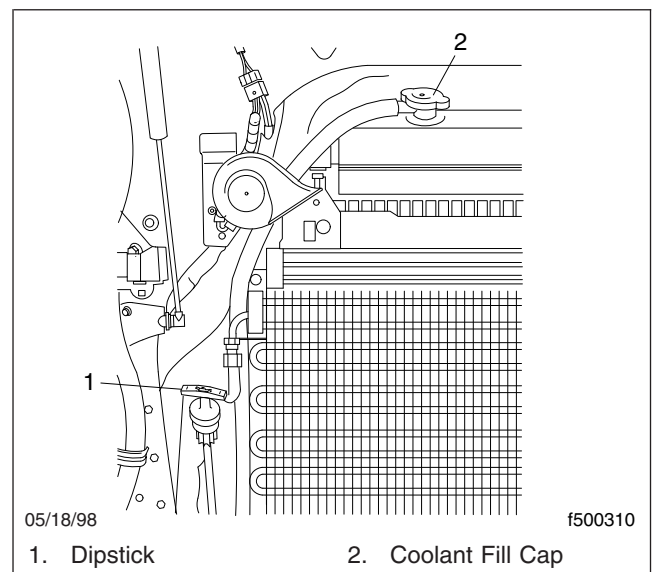

Fig. 23.6, Oil Level Checking
- 2.1 Check the oil level with the vehicle parked on a level surface. See Fig. 23.6. See the engine manufacturer's guidelines for engine shutdown time requirements prior to checking the oil level.
3. Check the engine coolant level in the radiator surge tank. See Fig. 23.6.